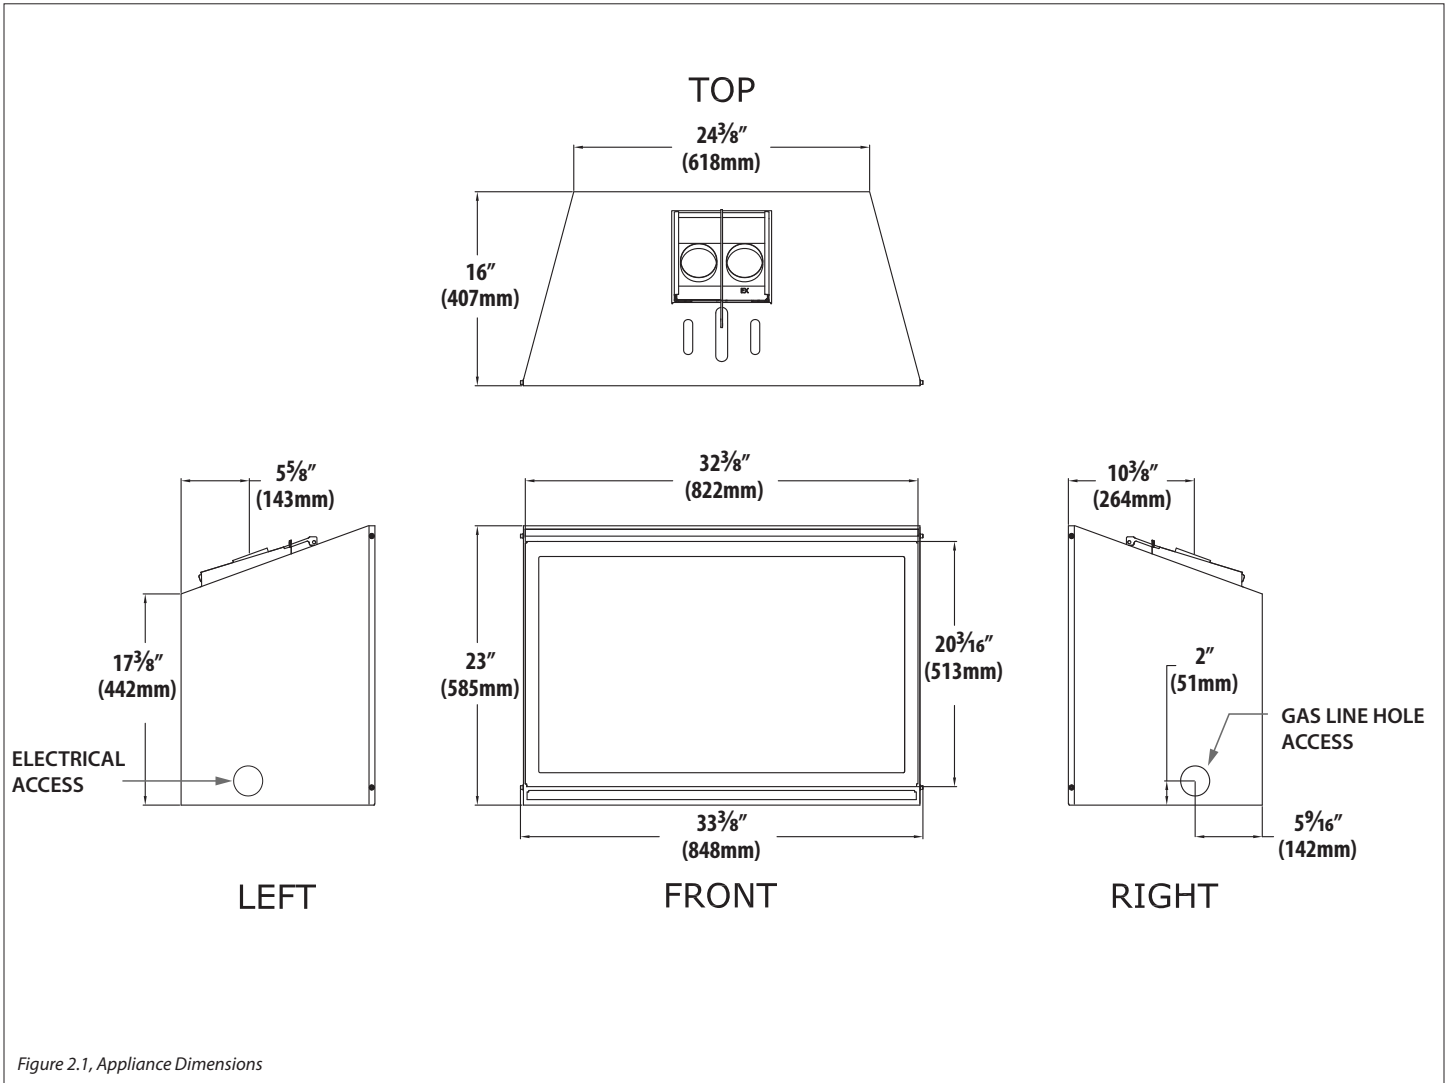

Figure 2.1, Appliance Dimensions
- A gas line must be able to be installed to the fireplace insert. Please refer to Figure 2.1 on page 9. The gas line access hole is located on the right side of the insert.
- See Figure 2.1 on page 9 for electrical outlet box location to run any necessary electrical wiring to the gas fireplace insert.